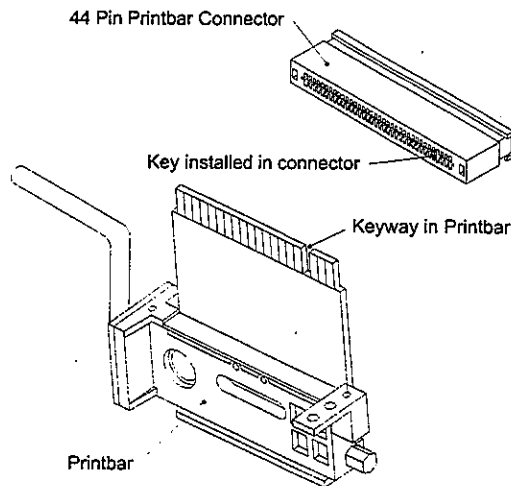

Figure 4.3 - Illustration of Keyway in Printbar.
10. With the Controller power **OFF**, place the 44-pin female connector to the PC board of the appropriate Printbar. The 44-pin connector is keyed so the connector can only be installed one way (see Figure 4.3 below).